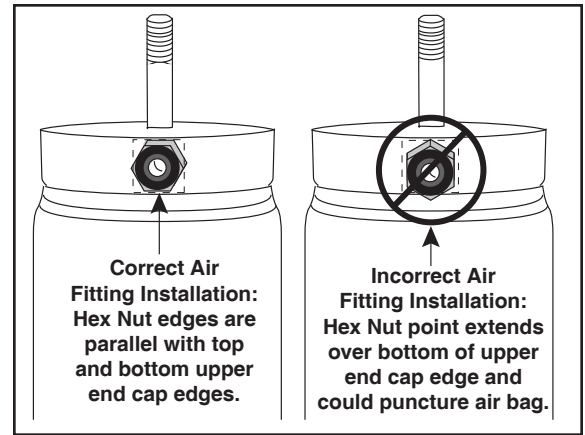

Figure 3
1. Insert the air fitting (B) into the new strut assembly (A). Refer to Figure 3 for proper air fitting installation.
NOTE: The fitting must be turned so the base of the hex nut is parallel to the end cap (Figure 3).